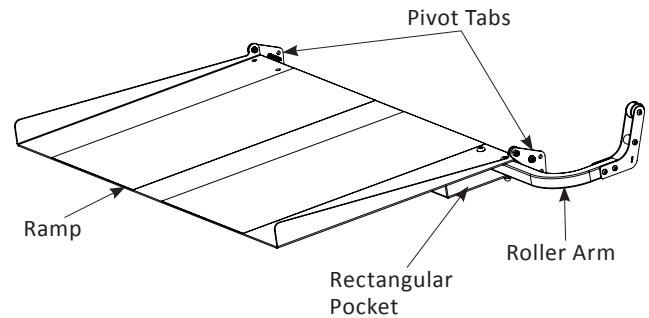

Figure 4-7
2. Assemble ramp roller arm into the rectangular pocket of the ramp with the provided hardware. **See Figure 4-7.**